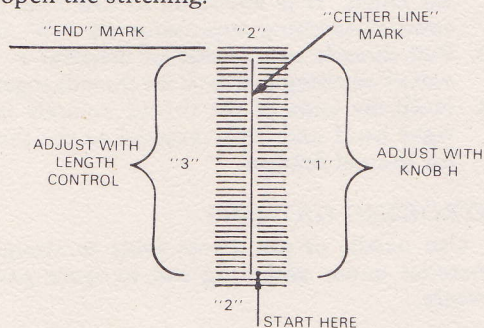

Fig. 29. Buttonhole Knob Settings
MAKING BUTTONHOLES (See Fig. 29)
1. Mark the material to show "Centerline" of the buttonhole and "end" of the buttonhole. (See Fig. 29)
2. Position the material so the left downward throw of the needle enters the start of the centerline mark nearest you. (Fig. 29)